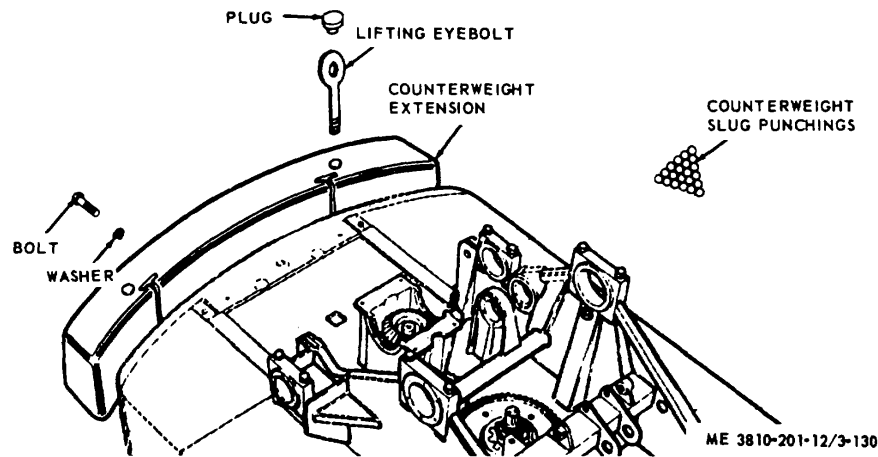

Figure 3-117. Counterweight extension, removal and installation.
(1) Position lifting device capable of lifting 10,000 lbs at rear of crane-shovel unit.
(2) Remove two plugs (fig. 3-117) from counterweight extension, and install two lifting eyebolts in counterweight.
(3) Secure lifting hooks in lifting eyebolts, take up slack then remove bolts and washers.
(4) Lift extension up and off revolving frame, and move to a suitable storage area.